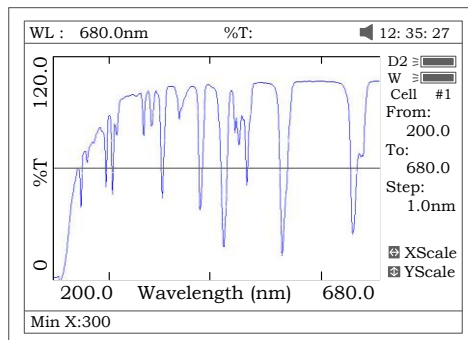
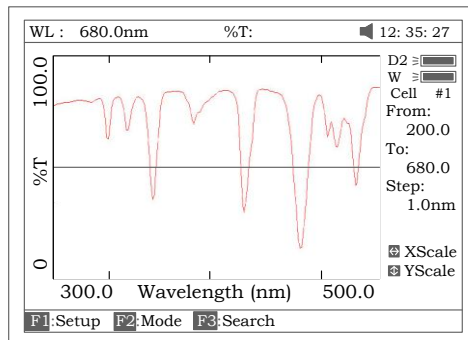

Fig47
Fig 48
5. If you want to change the scale, press **<** or **>** to change “x” scale (Fig 47), input upper limit and lower limit by pressing the numeric keypad . To change “y” scale press **^** or **v** . After these inputs the instrument will redraw the curve (Fig 48).
Press **【SAVE】** to save the curve. Note: Load/Save requires the first scan display page (Fig. 48). Press **ESC** if in Search to return to the required page